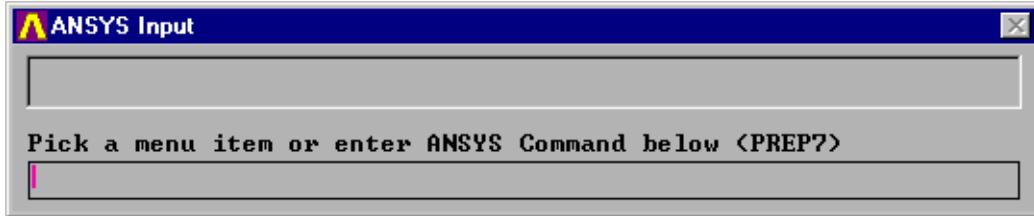

Figure 10: **ANSYS Input** window
- Enter **mcp_unit=1.0e-6** in the **ANSYS Input** window (Figure 10).